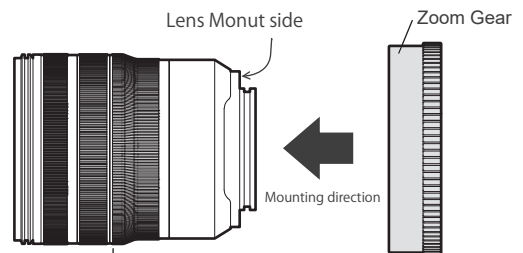

Fig.1
#### 1 Attach this product to the lens in parallel alignment with the lens as shown in Fig.1
- Please make sure to insert the zoom gear from the lens front side.(Fig.1)